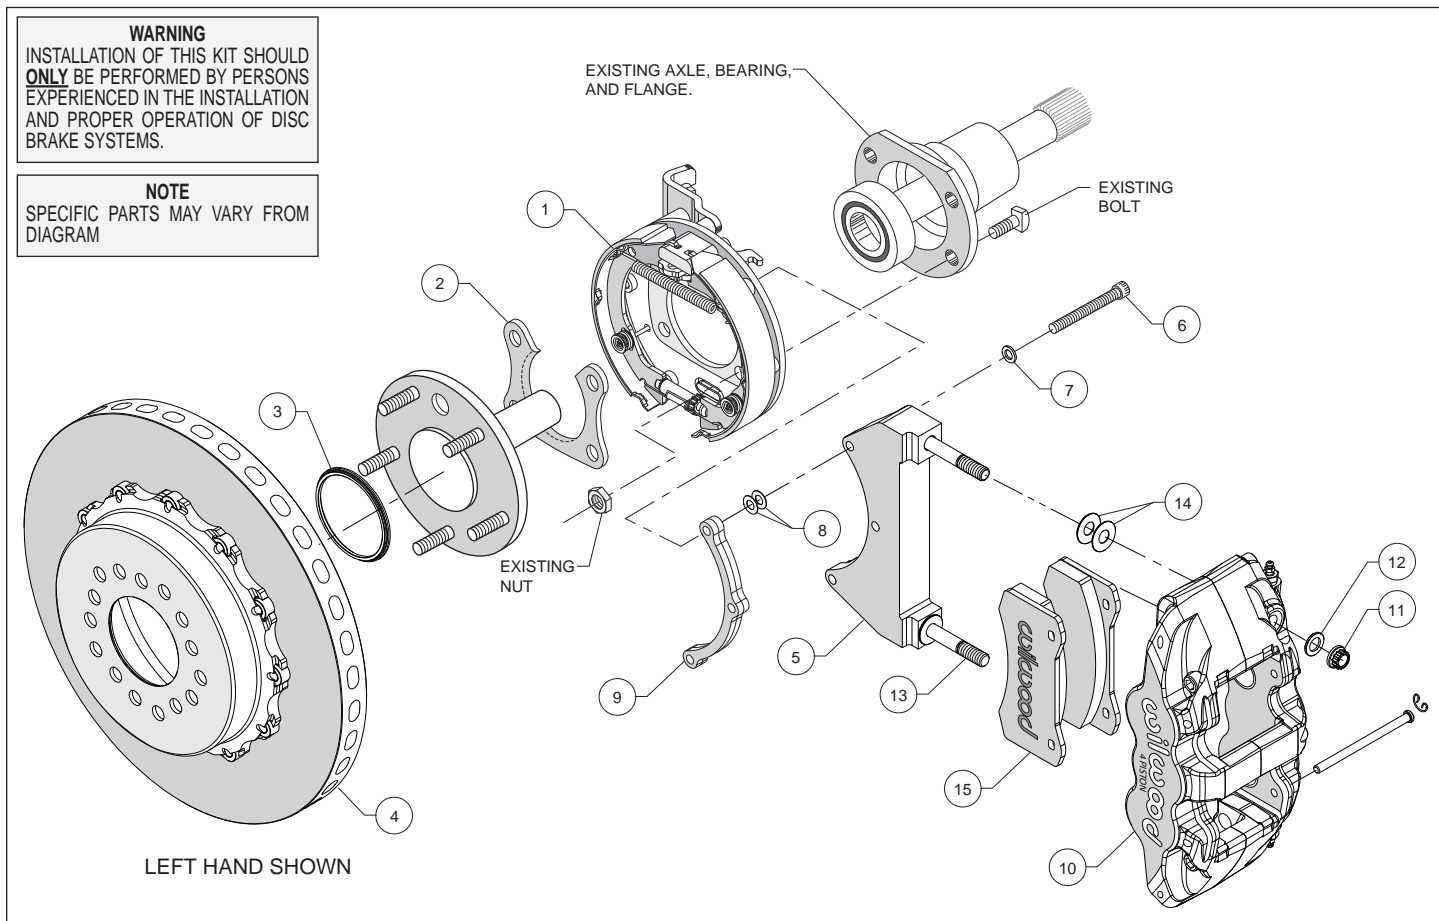

Figure 1. Typical Installation Configuration
Assembly Instructions (numbers in parenthesis refer to the parts list, and Figure 1 on the preceding pages): **CAUTION:** All mounting bolts must fully engage threaded holes.
- Orient the bracket assembly (1) as shown in Figure 1 and Photo 1 and slide it onto the axle. Insert the axle and bracket into the axle housing. Ensure that the bracket assembly backing plate fits flush against the axle housing flange.
- Install the bearing retainer (2) with the opening pointing upward and the lip facing inward (toward the bearing), as shown in Figures 1 and 4, and Photo 2. Secure retainer and bracket assembly to the axle housing flange using the Original Equipment Manufacturer (OEM) bolts and nuts, Figure 1. Apply red *Loctite*® 271 to the OEM bolt threads and torque to OEM specifications.
- Slide the rotor registration adapter (3) onto the axle flange with the smaller O.D. facing toward the rotor/hat, Photo 3.
- Align the correct hole pattern in the rotor/hat with the stud pattern on the axle flange and slide into place, Figure 1 and Photo 4. **NOTE:** The rotor/hat must fit flush against the axle flange or excessive rotor run out may result. Install three lug nuts (finger tight) to keep the rotor/hat assembly in place while continuing with the installation. **NOTE:** Some OEM and after market axles come with stud sizes larger than 0.50" diameter. Verify stud size and have a qualified machine shop drill the bolt circle of the hat/rotor to the correct stud size, if necessary.
- NOTE:** Please reference the caution statement at the beginning of the assembly instructions. The caliper mounting bracket (5) should be installed first with clean, dry threads on the mounting bolts. Install the caliper bracket to the bracket kit assembly (1) using bolts (6), washers (7), and spacer (9), as shown in Figure 1. Initially place two .015" thick shims (8) on each bolt between spacer and the caliper bracket. Temporarily tighten the mounting bolts. **NOTE:** The bracket must tighten squarely against the back side of the bracket kit assembly. Inspect for interference from casting irregularities, machining ridges, burrs, etc. Later, after the caliper alignment has been checked, the mount bolts will be secured using red *Loctite*[®] 271.
- Lubricate the caliper mounting studs (13) with lightweight oil. Initially place two .030" thick shims (14) on each stud between the caliper and the bracket, as shown in Figure 1 and Photo 5. Mount the caliper (10) onto the bracket (5) using lock nuts (11) and washers (12), Figure 1. Temporarily tighten the lock nuts. View the rotor through the top opening of the caliper. The rotor should be centered in the caliper, Photo 6. If not, adjust by adding or subtracting shims (8) between the bracket and the spacer. Always use the same amount of shims on each of the three mounting bolts. **NOTE:** The ends of the mounting bolts must fully engage, but not exceed, the inside face of the clinch nuts in the backing plate. If needed, add or subtract spare shims (8) and/or washers (7) under the bracket bolt heads to achieve proper clinch nut engagement. Once the caliper alignment and clinch nut engagement are correct, remove the bracket mounting bolts one at a time, apply red *Loctite*[®] 271 to the threads, and torque to 180 in-lbs.
- Remove the two pad retaining pins from the caliper by carefully popping out the pin retaining clips and sliding out the pins. Insert the brake pads (15) into the caliper from the bottom, Figure 1